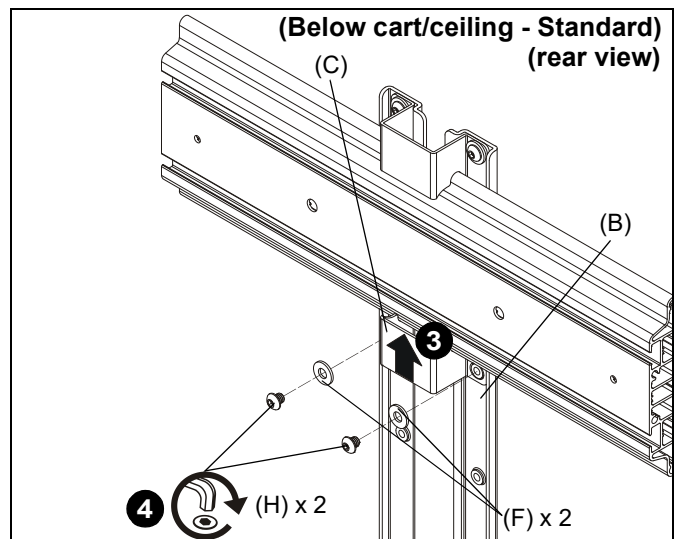

Figure 7
- Slide second shelf bracket (C) underneath head assembly, lining up holes on shelf bracket (C) to holes on main bracket (B). (See Figure 7)
- Use two 1/4-20 x 1/4" button head cap screws (H) and two large washers (F) to secure shelf bracket (C) to main bracket (B). (See Figure 7)